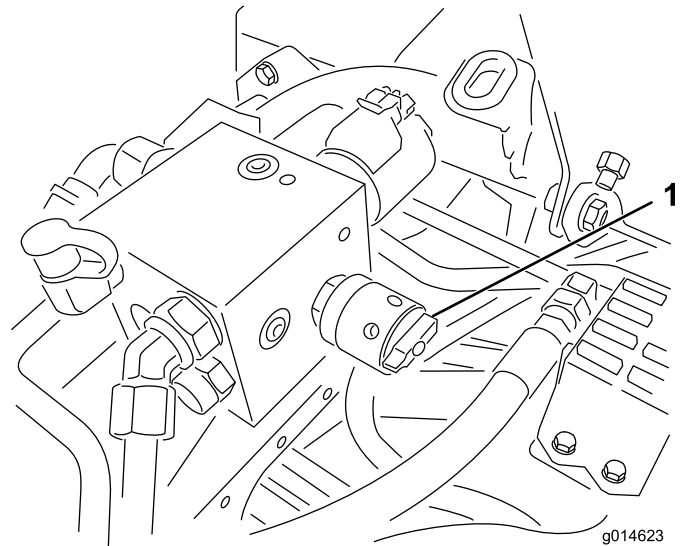

Figure 51
6. Rotate the reel-speed control to setting 1 (Figure 51).
4. Adjust the reel speed by rotating the knob (Figure 51) until the indicator arrows are in line with the number you determined in step 3.